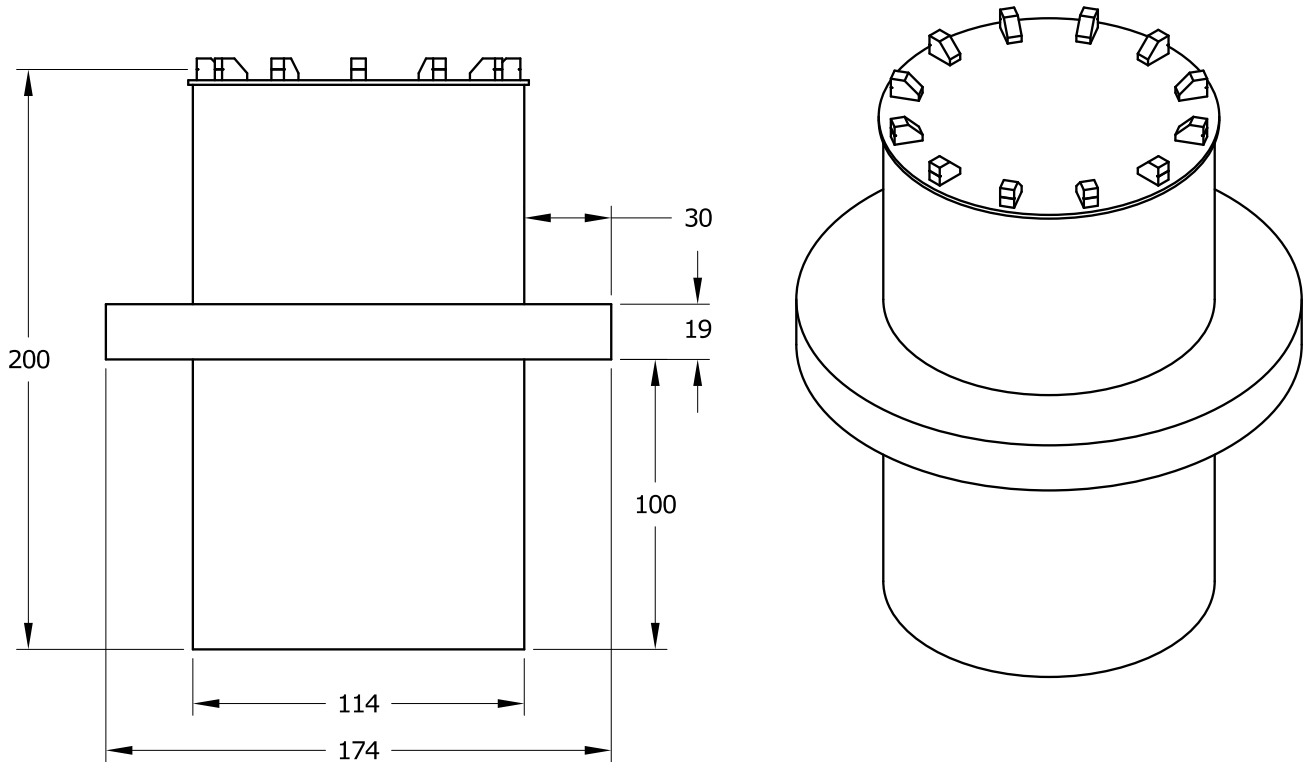

Figure 2: The MINERs. All dimensions in millimeters.
- Figure 2 shows dimensioned and isometric views of a MINER.